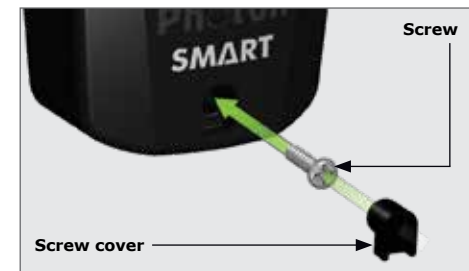

FIGURE 11
**The beam lenses MUST be fitted on the receiver during the alignment procedure as they serve to focus the infrared beam.** Failure to do so may result in an inability to achieve alignment. Refer to Figure 11.